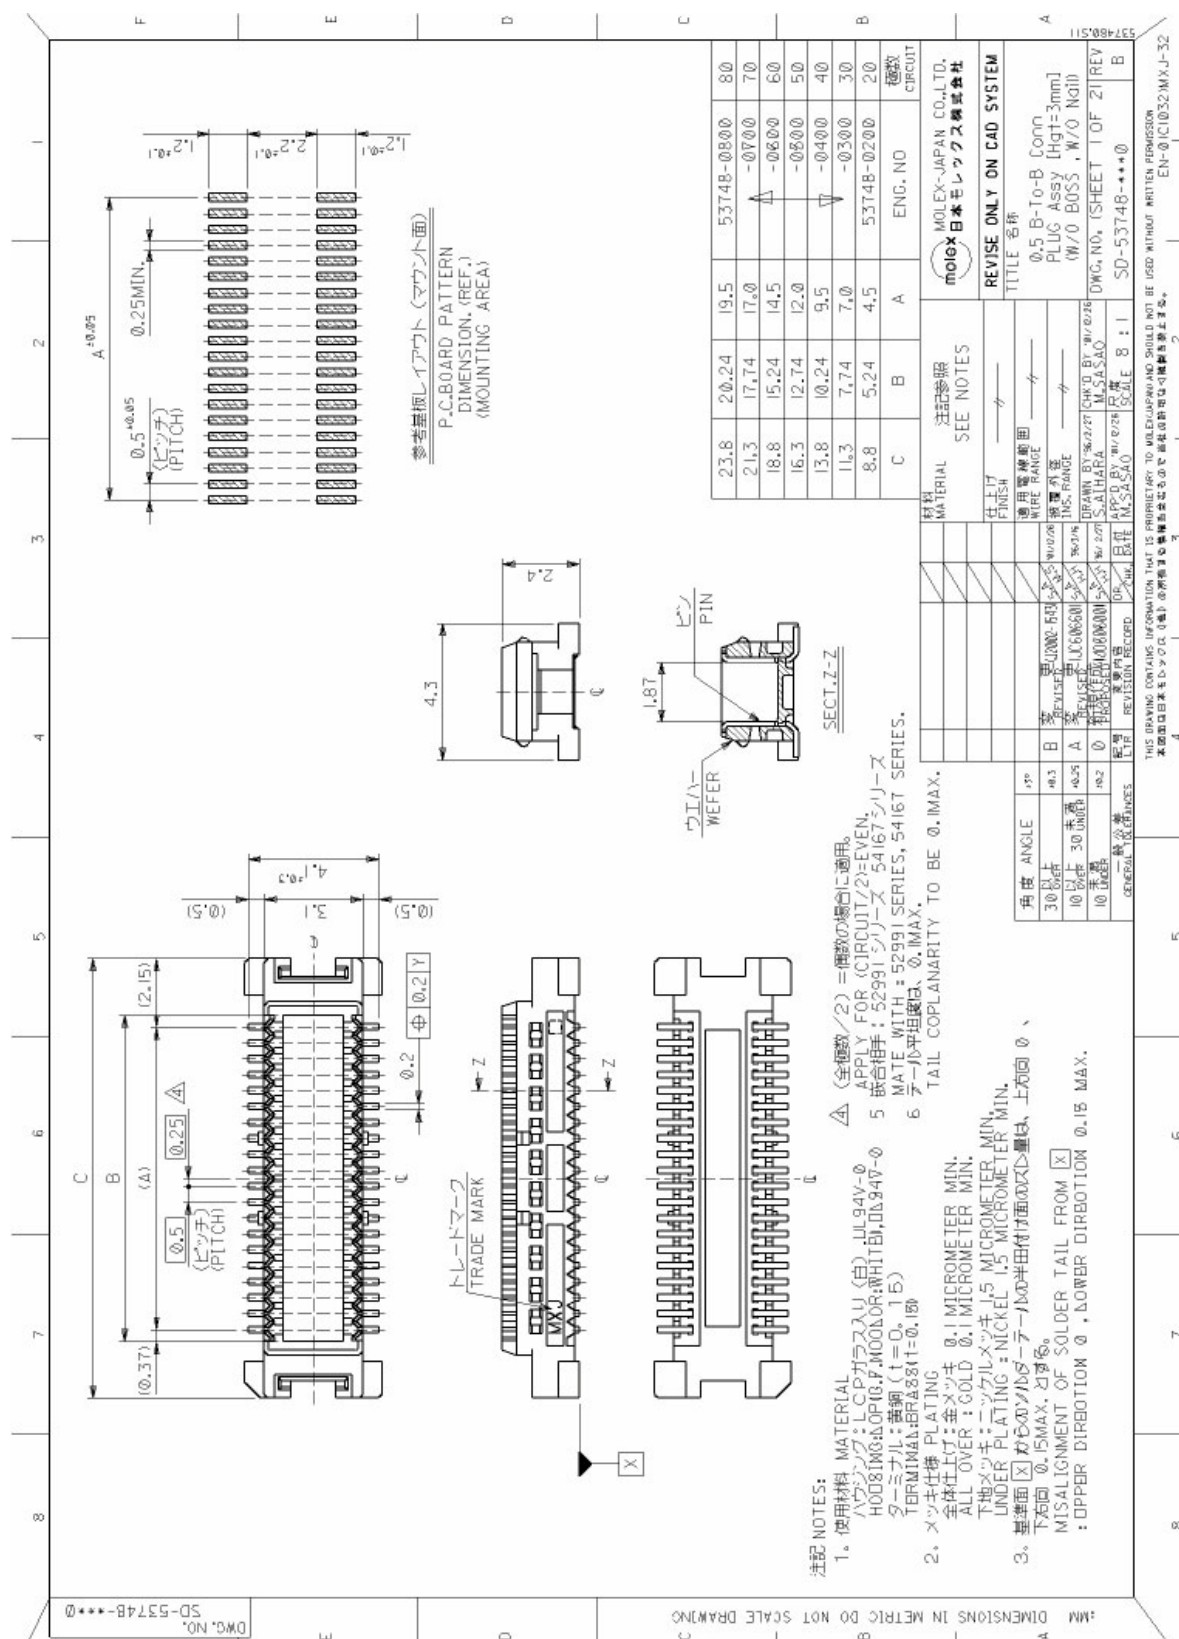

Figure 49: Mating board-to-board connector 53748-0808 on application
- 53748-0808 SlimStack Plug, 3mm stacking height, see Figure 49 for details.